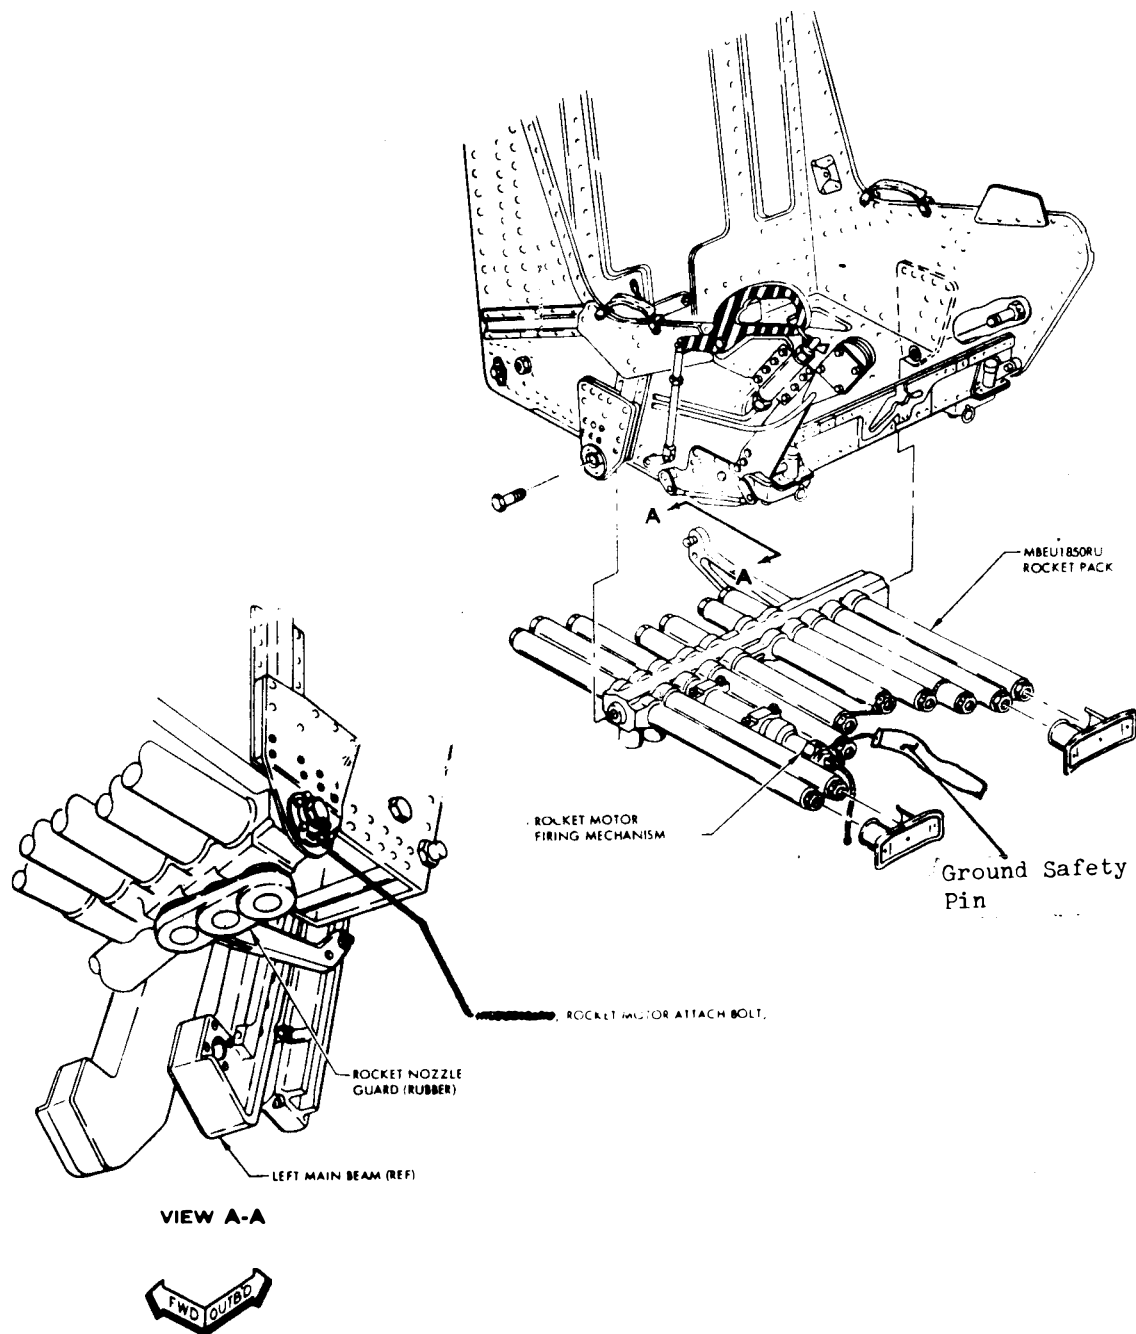

Figure 8-9. Ejection seat rocket pack installation (T.O. 13A5-32-501).
4. As the seat moves upward it reaches the end of a cable lanyard that fires the mechanically initiated rocket pack that sustains the seats upward motion. Refer to figure 8-9.